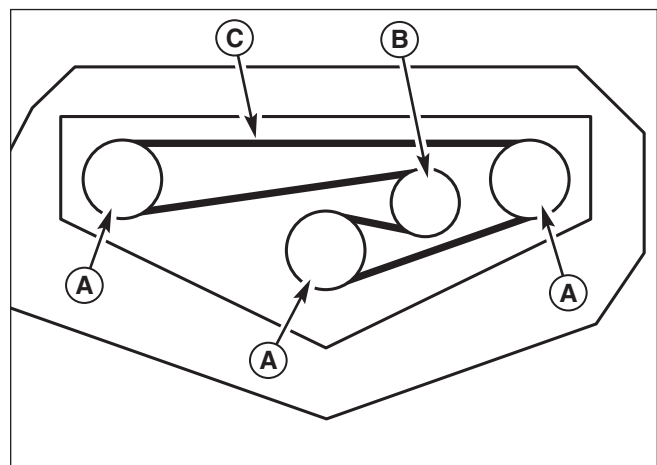

Figure 53. Spindle Drive Belt Removal
6. Remove the old belt and replace with a new one. Make sure the V-side of the belt runs in the pulley grooves (Figure 53).